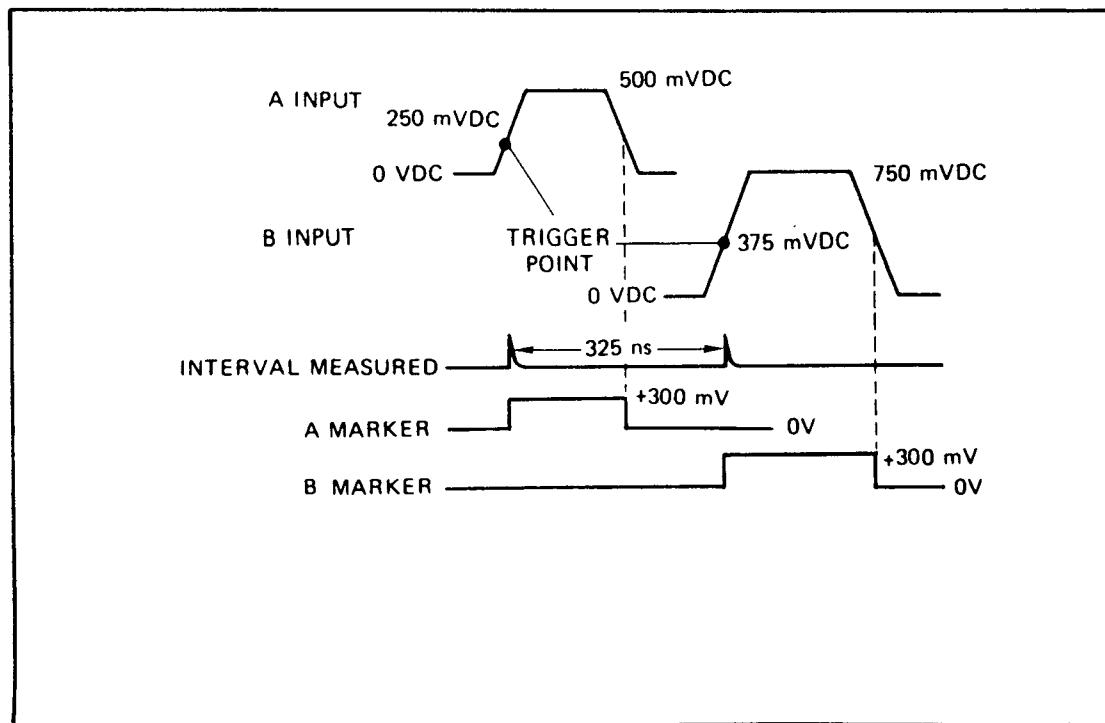

Figure 3-5. LEVEL Control Settings
**LEVEL.** Each channel's LEVEL control can be adjusted over a range of  $\pm 2.5V$  dc (with the attenuator for that channel in its "X1" position). A typical use of the LEVEL controls is shown in Figure 3-5. You can read the triggering level if your Model 5328B includes a Digital Voltmeter module. Trigger level measurements are discussed under DVM measurements in paragraph 3-25.